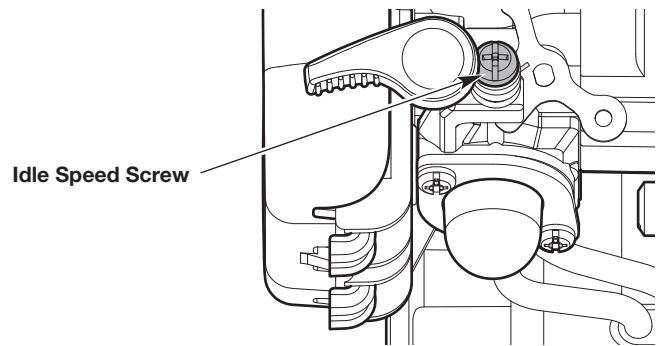

Fig. 22
- If the engine stops, increase the idle speed. Use a small Phillips screwdriver to turn the idle speed screw clockwise, 1/8 of a turn at a time, until the engine idles smoothly (Fig. 22).
- If the saw chain spins when the engine idles, reduce the idle speed. Turn the idle speed screw counterclockwise, 1/8 of a turn at a time, until the saw chain stops moving (Fig. 22).